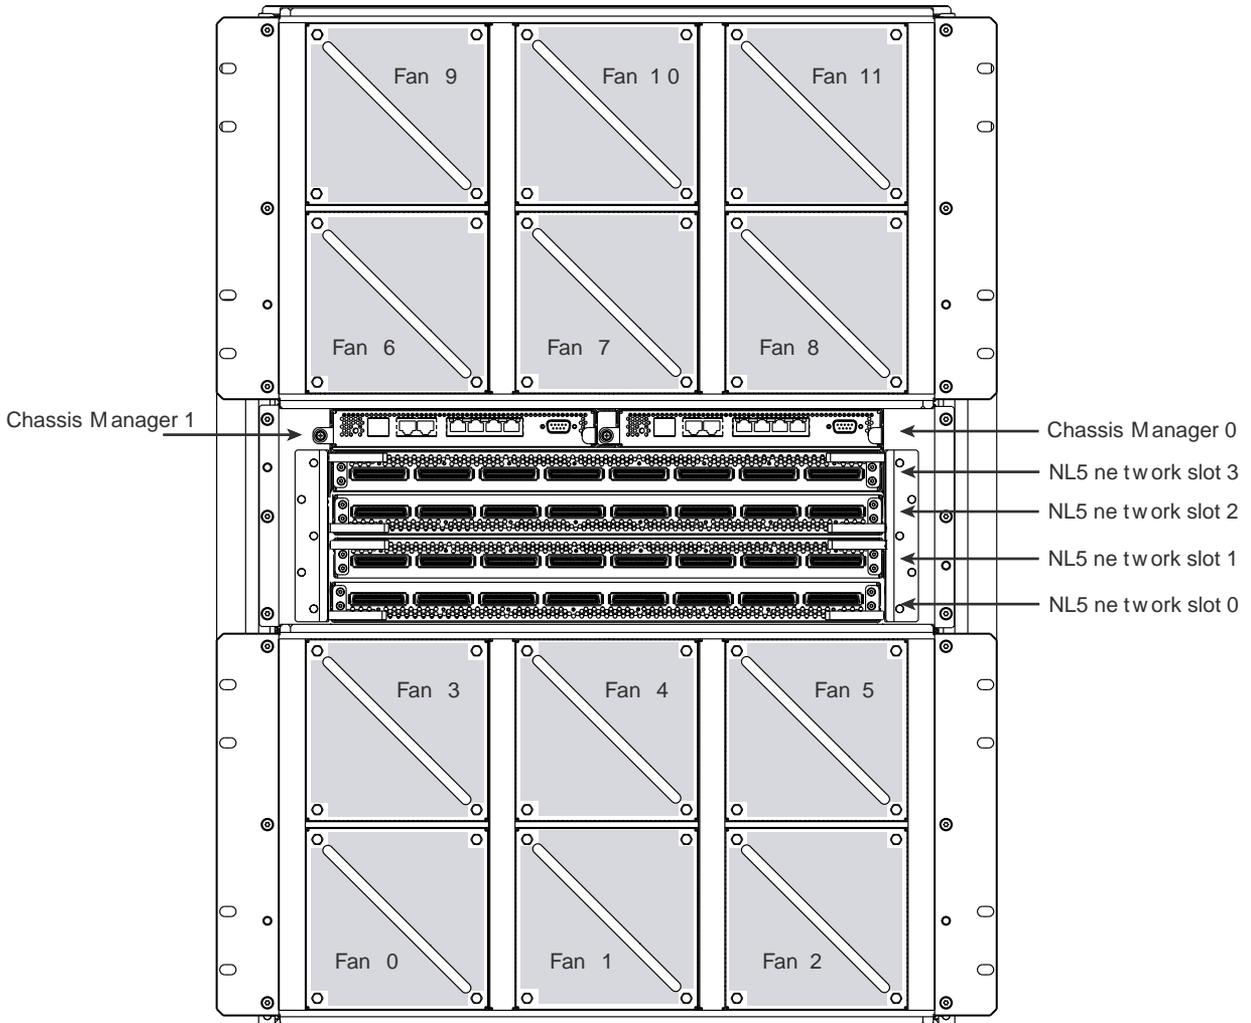
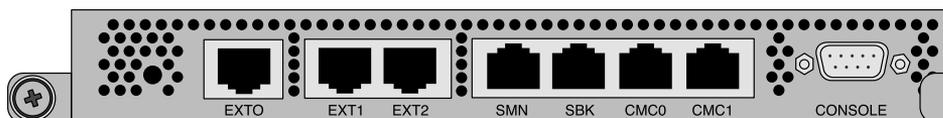

Figure 1-5 Chassis Manager Controller
Figure 1-6 CMC Ethernet Ports on SGI Altix UV 1000 Systems
The chassis manager controller (CMC) in the rear of the IRU, as shown in Figure 1-5, and Figure 1-6, supports powering up and down of the compute blades and environmental monitoring of all units within the IRU. The CMC sends operational requests to the baseboard manager controller (BMC) on each compute node. The CMC provides data collected from the compute nodes within the IRU to the system management node upon request. The CMC blade on the right side of the IRU is the primary CMC. A secondary CMC is currently not supported.
Chassis manager controller (CMC) for SGI Altix UV 1000 systems has seven RJ45 Ethernet ports, as shown in Figure 1-6.
Establish a Network/Ethernet connection (see SBK port, EXT port, and SMN port in Figure 1-6)
2. Establish a serial connection to the **CONSOLE** on the CMC (see Figure 1-6 on page 10). See “Connecting to the UV System Controller Network” on page 15 or skip to the next step.
Typically, the default password set out of the factory is `root`. The CMC prompt appears. `CMC:r111c` refers to rack 1, IRU 1, CMC (see Figure 1-5 on page 9 and Figure 1-6 on page 10)